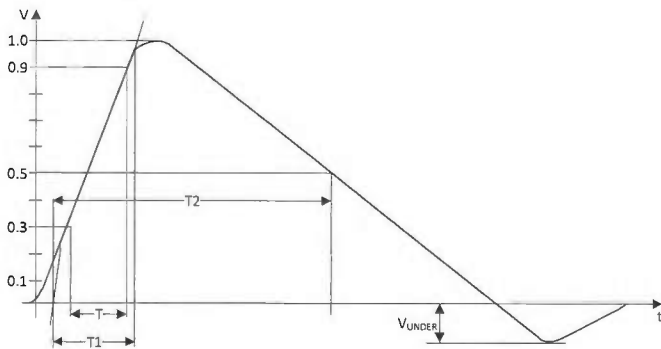

Figure 13 — Impulse Waveform for EOS Test (IEC 61000-4-5)
- NOTE 2 The input source needs to follow the waveform and condition as shown in Figure 13 and Table 18.